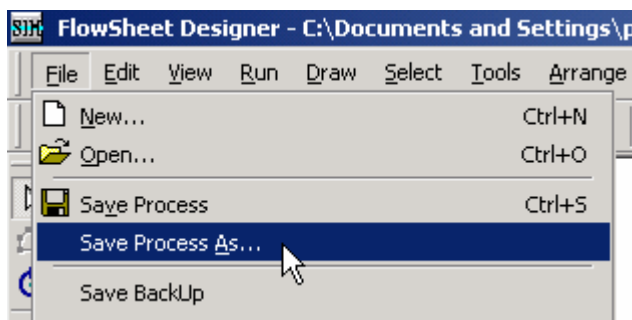

Figure 9. Saving the file, Save Process As...
- Save the flowsheet (create a new folder) (Figure 9)